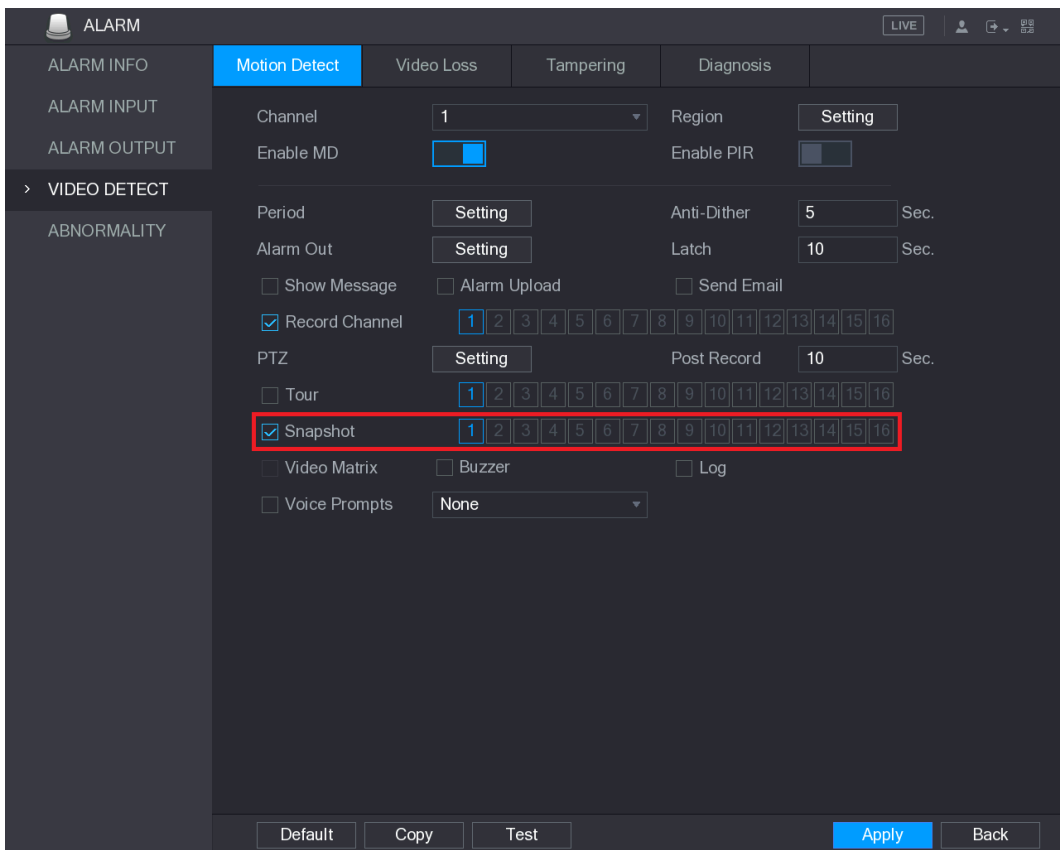

Figure 5-99
Step 3 Select **Main Menu > ALARM > VIDEO DETECT**, and select the event type to configure, for example, select the **Motion Detect** tab. See Figure 5-99.